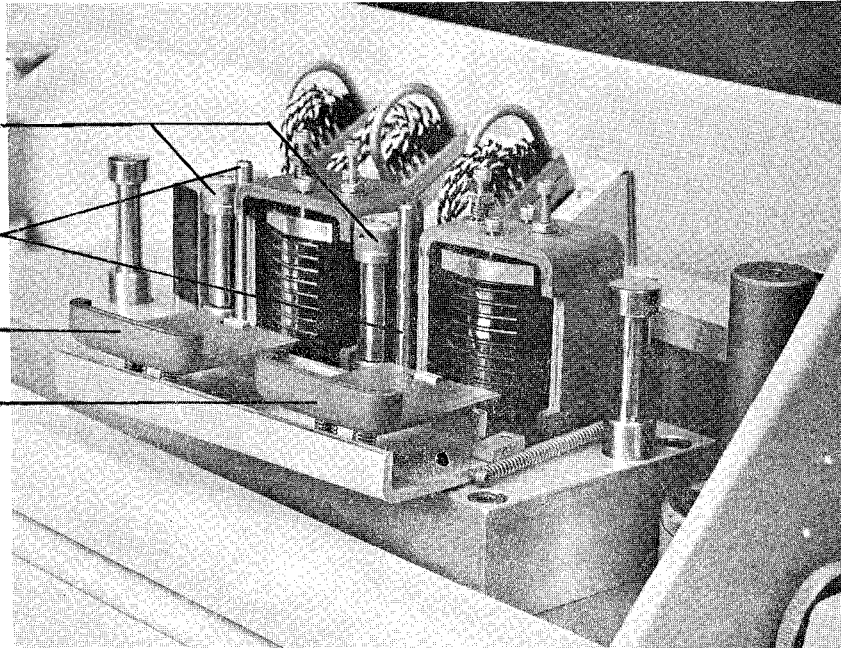

FIGURE 1-2
Scrape flutter is practically non-existent due to jeweled bearing scrape flutter idlers (Figure 1-2). The record and reproduce heads are completely enclosed in MU metal shields to exclude external signals. Head shields open completely for cleaning and deguassing. The entire head and capstan assembly is enclosed in a lift top housing to minimize dust accumulation.
1.5 HEAD ASSEMBLY (FIGURE 1-2)